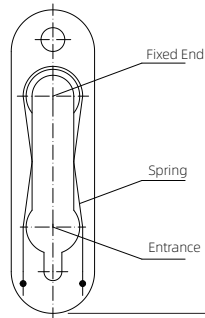

Figure 7
(2) Pegboard spring type connector: When installing the inner tube, the lever enters from the entrance end, and then moves to the fixed end with your finger through the spring. (Figure 7)